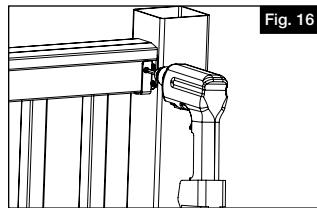

Fig. 16
- b. Using a $\frac{1}{8}$ " drill bit, predrill the top rail in the two locations on the metal bracket. Install #10 x1" screws in pre drilled holes of each of the metal brackets (Fig 16).